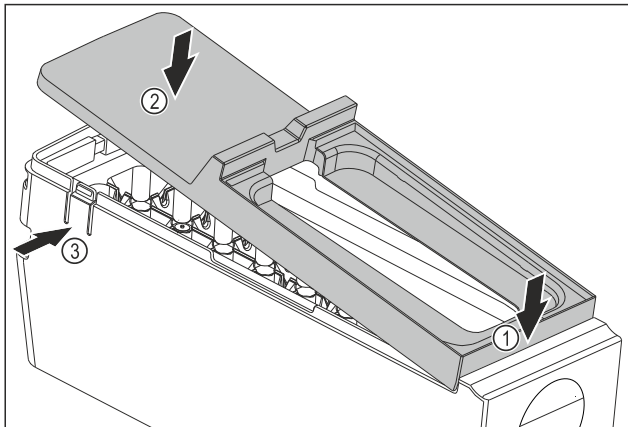

Fig. 191
- ▶ Installing the EasyTwist-Ice body cover: Place the cover on the front. Fig. 191 (1)
- ▶ Lower the cover at the rear. Fig. 191 (2)
- ▶ The cover locks into both tabs Fig. 191 (3) audibly.